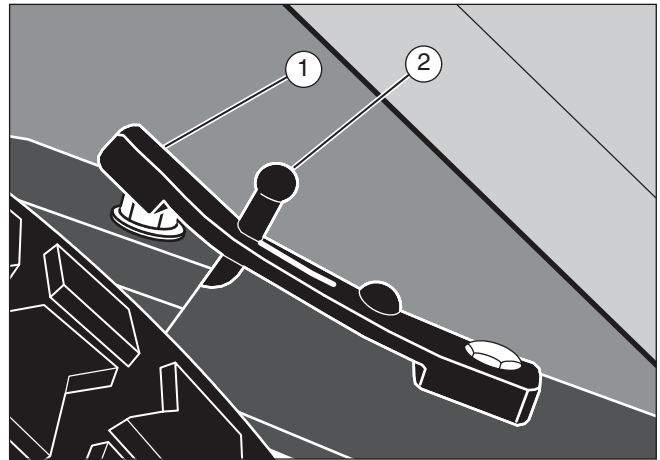

Figure 18
2. Move the shift lever (4) to the neutral (N) position.
3. Engage the parking brake (6).
5. Move the lift lever (5) to the middle cutting position.
6. Disconnect the rubber strap (1) from the latch pin (2) on the connector tube (3) (see **Figures 18 and 19**).
3. Attach the rubber strap (1) to the latch pin (2) on the connector tube (3) (see **Figures 18 and 19**).